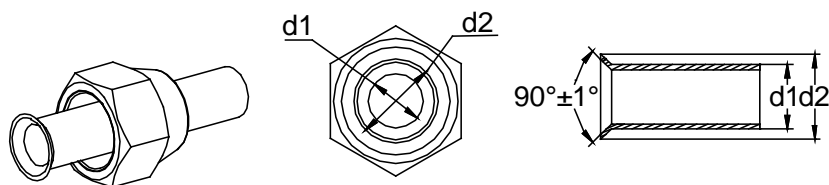

Fig. 4.1
- (1) Mechanical connectors used indoors shall comply with ISO 14903. When mechanical connectors are reused indoors, sealing parts shall be renewed. When flared joints are reused indoors, the flare part shall be refabricated.
- (2) Pipework shall be protected from physical damage.
- (3) Installation of pipework shall be kept to a minimum space required.
- (4) Do NOT re-use joints and copper gaskets which have been used already.
- (5) Joints made in installation between parts of refrigerant system shall be accessible for maintenance purposes.
- (6) Install the refrigerant piping or components in a position where they are unlikely to be exposed to any substance which may corrode components containing refrigerant, unless the components are constructed of materials that are inherently resistant to corrosion or are suitably protected against corrosion.
- (7) After completion of field piping for split systems, the field pipework shall be pressure tested with an inert gas and then vacuum tested prior to refrigerant charging, according to the following requirements; field-made refrigerant joints indoors shall be tightness tested. The test method shall have a sensitivity of 5 grams per year of refrigerant or better under a pressure of at least 0.25 times the maximum allowable pressure. No leak shall be detected.
- (8) Use pipe cutter to cut the connection pipe in case it is unshaped.
- (9) Keep the pipe downward in case cutting scraps get into the pipe. Clear away the burrs after cutting.
- (10) Remove the flared nut connecting indoor connection pipe and outdoor unit. Then use flaring tool to fix the flared nut into the pipe (as shown in Fig.4.1).
- (11) Check if the flared part is flaring evenly and if there is any crack.